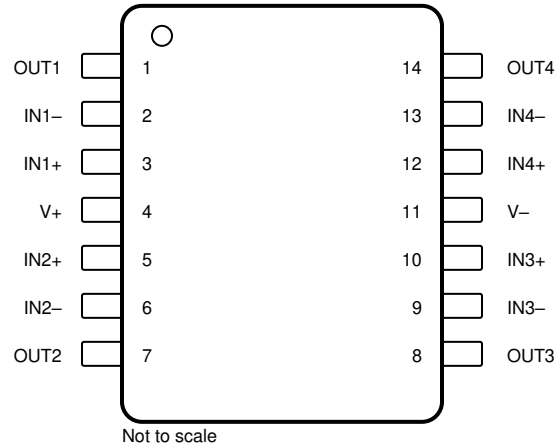

Figure 4-2. Pin Diagram (TSSOP (14) and SOIC (14) Packages)
4.2 TSSOP (14) and SOIC (14) Packages
Figure 4-2 shows the TLV9064-Q1 pin diagram for the TSSOP (14) and SOIC (14) packages. For a detailed description of the device pins please refer to the 'Pin Configuration and Functions' section in the TLV9064-Q1 data sheet.